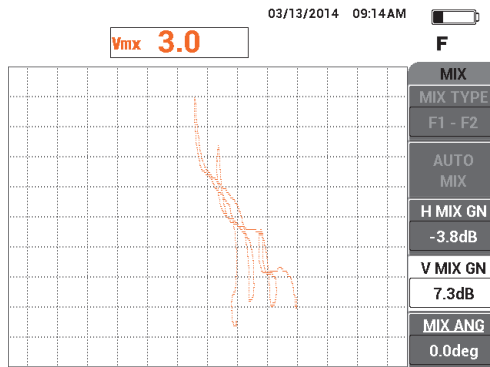

Figure 5-111 Adjusting the V MIX GN value
21. Increase the **V MIX GN** (D key) until the signal's maximum amplitude reaches 80 % of the screen height (see Figure 5-111 on page 205).